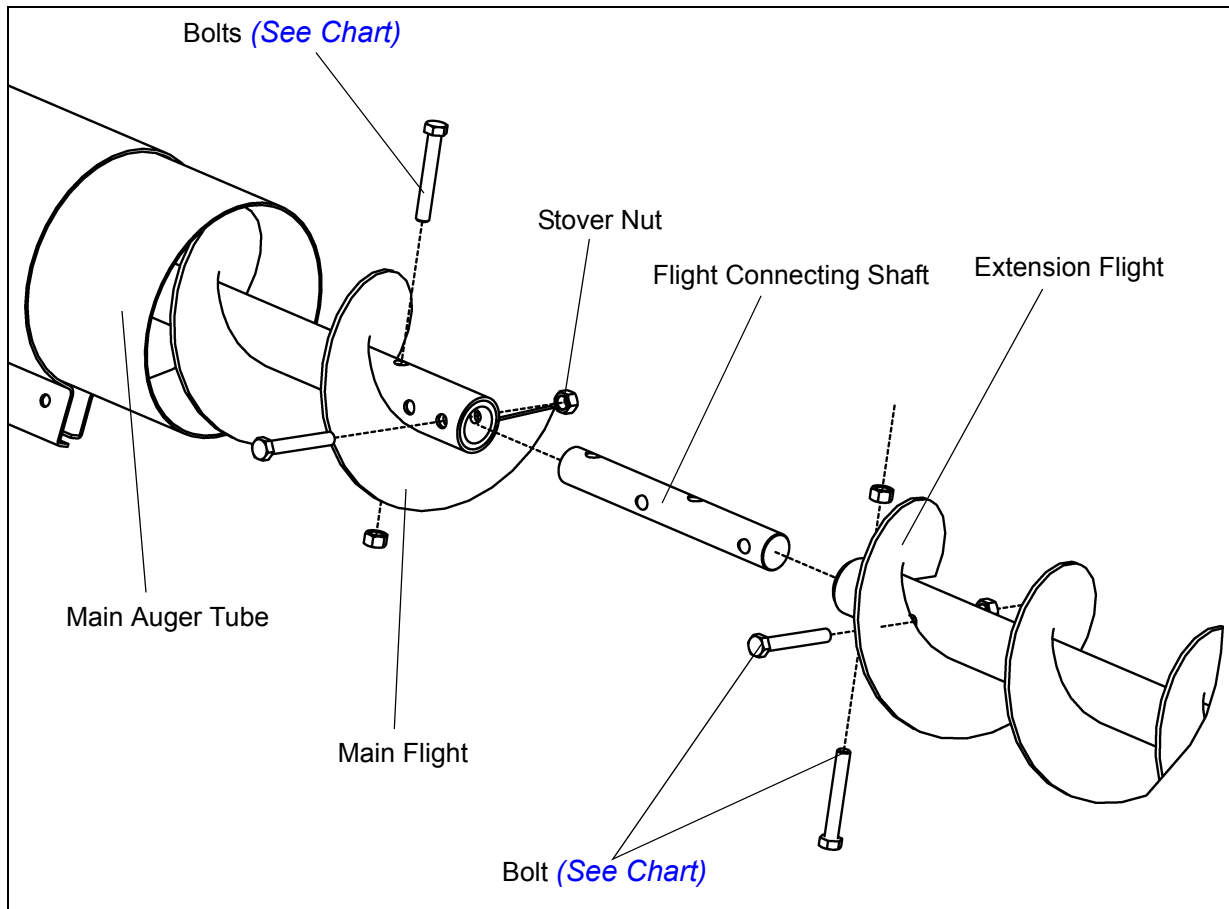

Figure 4B
- Slide the flight connecting shaft into the main section of flight and bolt together with Grade 8 Hex Bolt and Stover nut. Next slide extension flight onto connecting shaft and bolt together using proper grade 8 bolts and stover nuts (See Chart) and (Figure 4B).